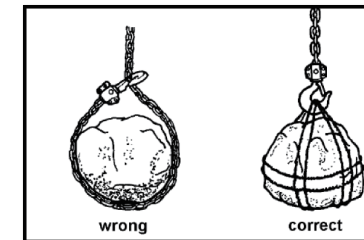

FIG 11
- When lifting loads, hook the load with slings. Do not use the lever hoist chain as a sling (FIG 11).